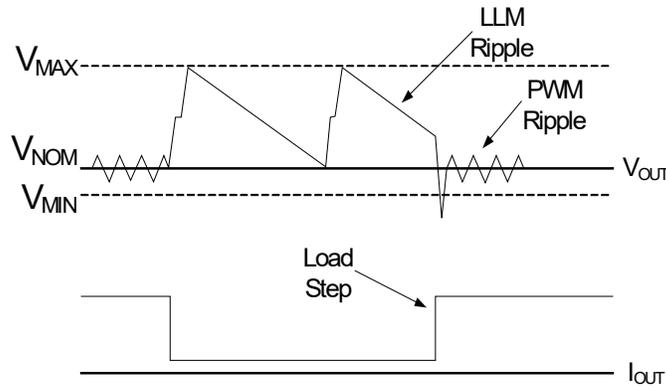

Figure 6: V_{OUT} Behavior in LLM Operation
The EP53A7xQI uses a proprietary light load mode to provide high efficiency in the low load operating condition. When the LLM pin is high, the device is in automatic LLM/PWM mode. When the LLM pin is low, the device is in PWM mode. In automatic LLM/PWM mode, when a light load condition is detected, the device will (1) step V_{OUT} up by approximately 1.5% above the nominal operating output voltage setting, V_{NOM} , and then (2) shut down unnecessary circuitry, and (3) monitor V_{OUT} . When V_{OUT} falls below V_{NOM} , the device will repeat (1), (2), and (3). The voltage step up, or pre-positioning, improves transient droop when a load transient causes a transition from LLM mode to PWM mode. If a load transient occurs, causing V_{OUT} to fall below the threshold V_{MIN} , the device will exit LLM operation and begin normal PWM operation. Figure 6 demonstrates V_{OUT} behavior during transition into and out of LLM operation.
Many multi-mode DC-DC converters suffer from a condition that occurs when the load current increases only slowly so that there is no load transient driving V_{OUT} below the V_{MIN} threshold (shown in Figure 6). In this condition, the device would never exit LLM operation. This could adversely affect efficiency and cause unwanted ripple. To prevent this from occurring, the EP53A7xQI periodically exits LLM mode into PWM mode and measures the load current. If the load current is above the LLM threshold current, the device will remain in PWM mode. If the load current is below the LLM threshold, the device will re-enter LLM operation. There will be a small droop in V_{OUT} at the point where the device exits and re-enters LLM, as shown in Figure 7. The load current at which the device will enter LLM mode is a function of input and output voltage. Figure 8 shows the typical value at which the device will enter LLM operation. The actual load current at which the device will enter LLM operation can vary by +/-30%. Table 1 shows the minimum load current below which the device is guaranteed to be in LLM operating mode.